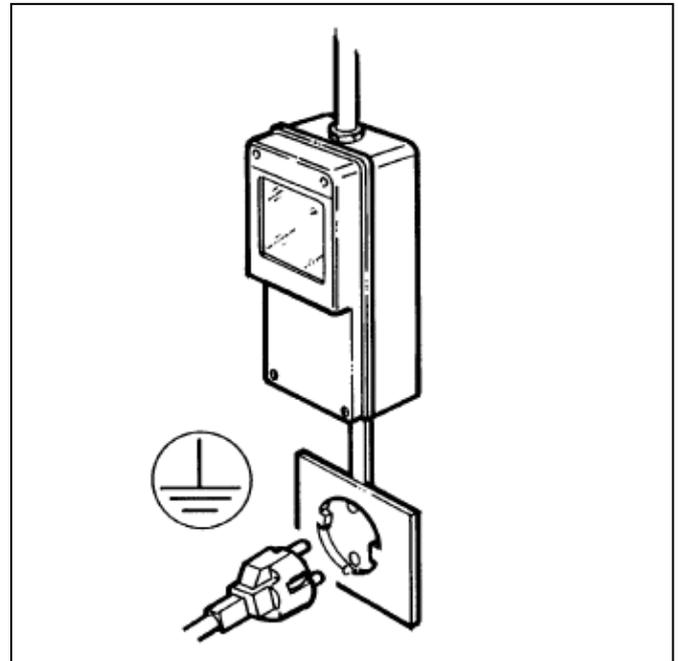

Fig. 2
- The machine's electrical safety is only guaranteed when it is connected to a suitable earth system, structured as provided by the national safety current regulations (fig.2). Therefore, the manufacturer cannot be held responsible for any damage due to failure of the grounding system of the machine.